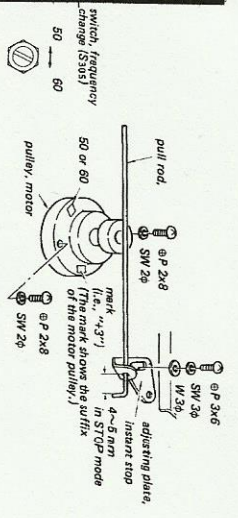

Fig. 13-2
4. Adjust by positioning the instant stop adjusting plate so that the distance between the top of the pull rod and the instant stop adjusting plate is 4~5 mm (5/32 ~ 5/64") in STOP mode as shown in Fig. 13-2.